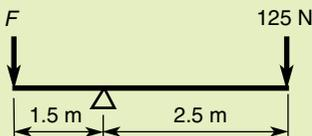

Figure 38
28. The bar in Figure 38 is in equilibrium. The force F is